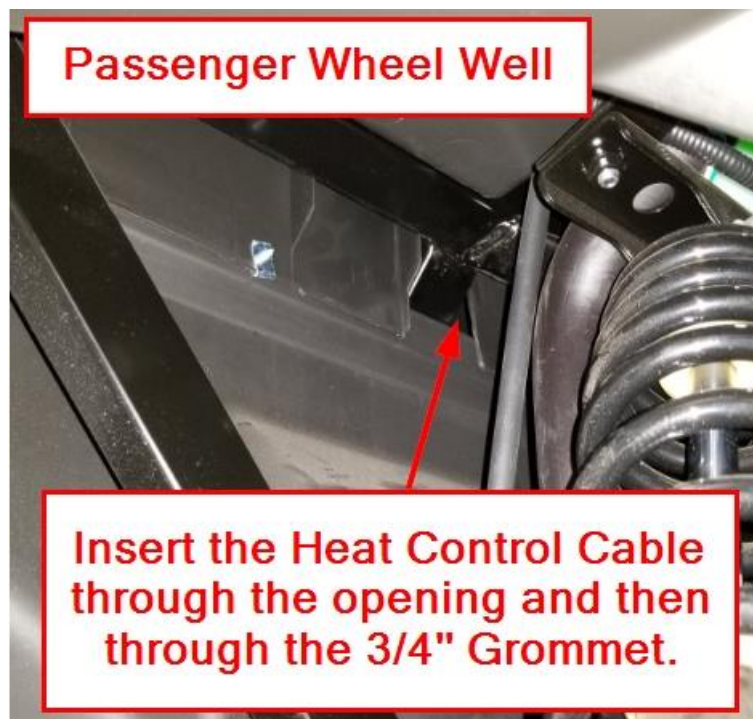

Figure 17
- j. From the Passenger Side wheel well, insert the Heat Control Cable through the opening in the frame shown in Figure 17. The cable can be routed through the 3/4" Rubber Grommet and into the cup holder area.